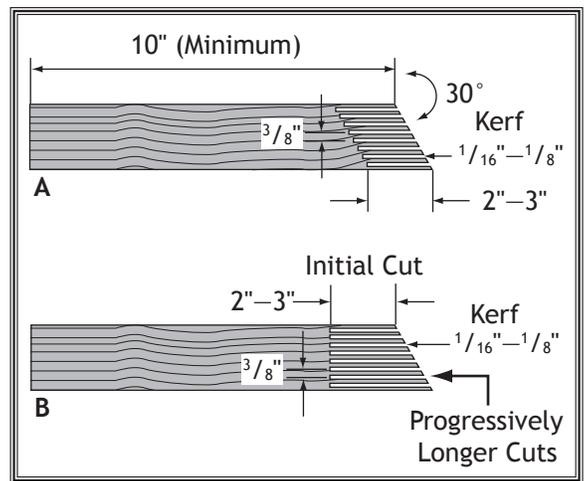

Figure 82. Patterns for making featherboards.
3. Make a series of end cuts with the grain $\frac{3}{8}$ "- $\frac{1}{4}$ " apart and 2"-3" long, as shown in **Figure 82** (A). Alternatively, start cuts at 2"-3" deep, then make them progressively deeper, as shown in **Figure 82** (B).